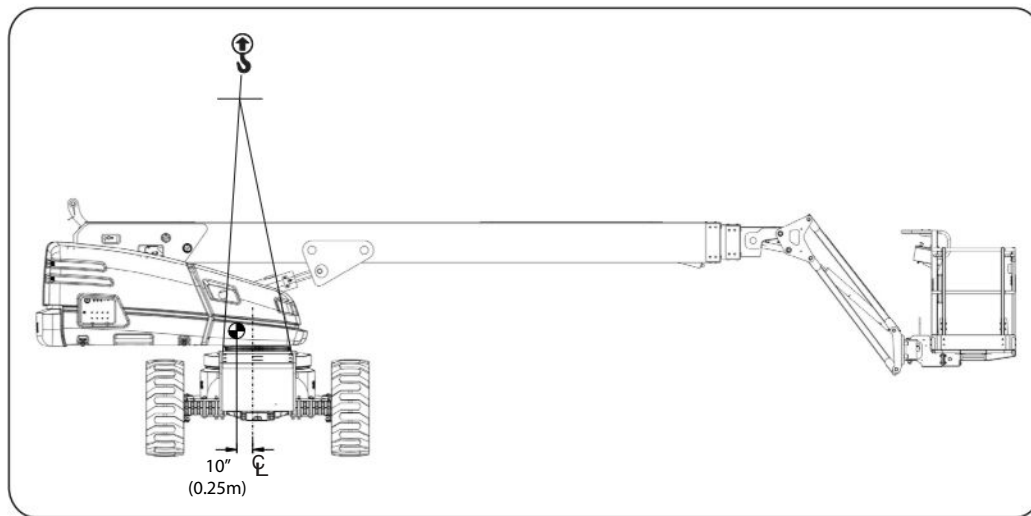
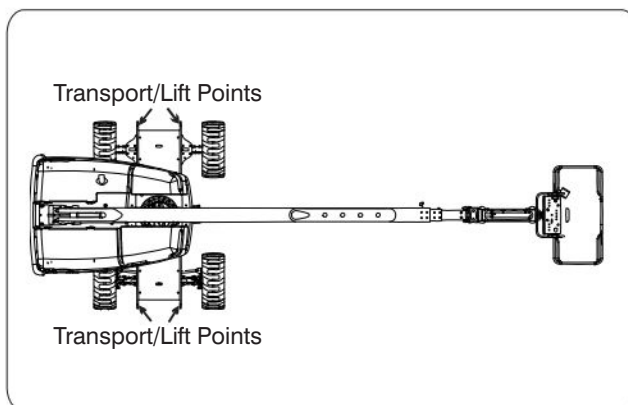
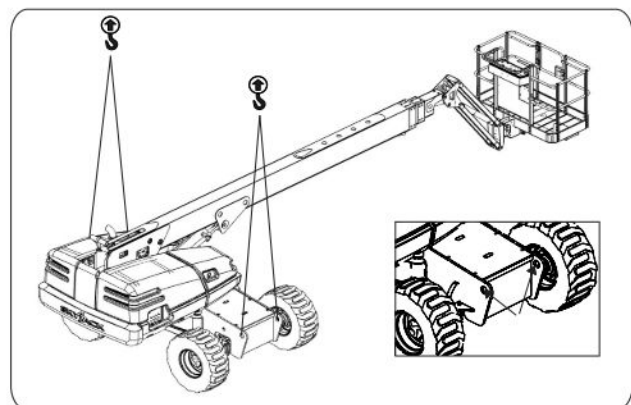

Figure 3-15. 61/66T Center of Gravity
Figure 3-16. 61/66T Overhead View Lifting Points
Figure 3-17. 61/66T Lifting Points
1. Rotate the boom and position the aerial platform as shown in Figure 3-15 and Figure 3-16..
When lifting the aerial platform, lifting devices must be attached to designated lift points only (refer to Figure 3-16 and Figure 3-17).
4. Properly adjust rigging to ensure aerial platform remains level during lifting. See Center of gravity location (Figure 3-15).